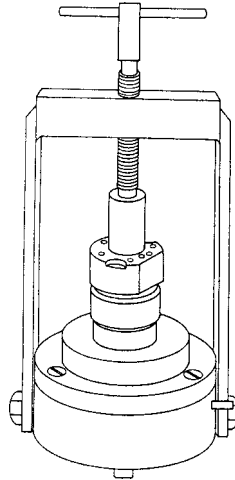

Figure 9.2
- D. Place the T101 bearing assembly plug onto the exposed end of the rotor shaft (10). (See Figure 9.2).